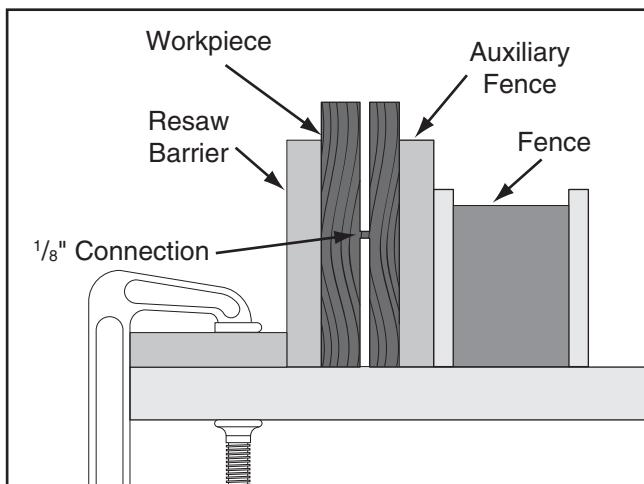

Figure 78. Ideal completed resaw cut.
7. Raise the blade approximately an inch, or close to half the height of the workpiece (**Figure 78**), whichever is less.
10. Repeat **Steps 7–9** until the blade is close to half of the height of the board to be resawn. The ideal completed resaw cut will leave an $\frac{1}{8}$ " connection when the resawing is complete as shown in **Figure 78**. Leaving an $\frac{1}{8}$ " connection will reduce the risk of kickback.